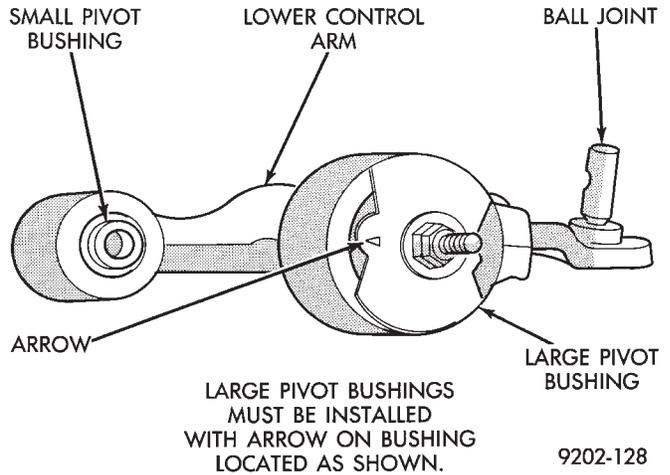
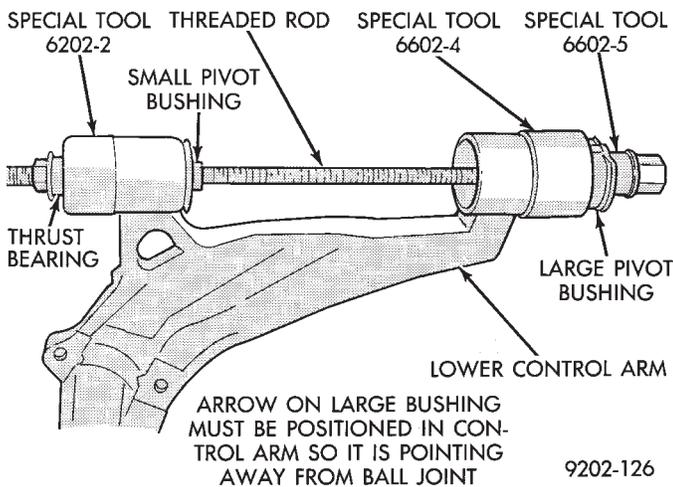

Fig. 11 Positioning Control Arm Bushing
Fig. 10 Bushing And Tool Position For Installation In Control Arm
(3) Install the pieces assembled in step 2 through the hole in the small pivot bushing and the large pivot bushing hole in the lower control arm. At the large pivot bushing hole in the lower control arm assemble the following special tool pieces. Large Bushing Sizer, Special Tool 6602-4, large lower control arm pivot bushing, large bushing disc Special Tool 6602-5, thrust bearing, washer and nut (Fig. 10). Lubricate the installer cone and new bushing using Mopar® Silicone Spray Lube or equivalent.
(4) Hold the threaded rod stationary and turn the long nut until the bushing is fully installed into the
(5) If the position of the large lower control arm pivot bushing (Fig. 11) moved during bushing installation. Install a nut and bolt through the bushing sleeve and tighten it down (Fig. 11). Using a wrench rotate the bolt until the bushing is in the correct position (Fig. 10)